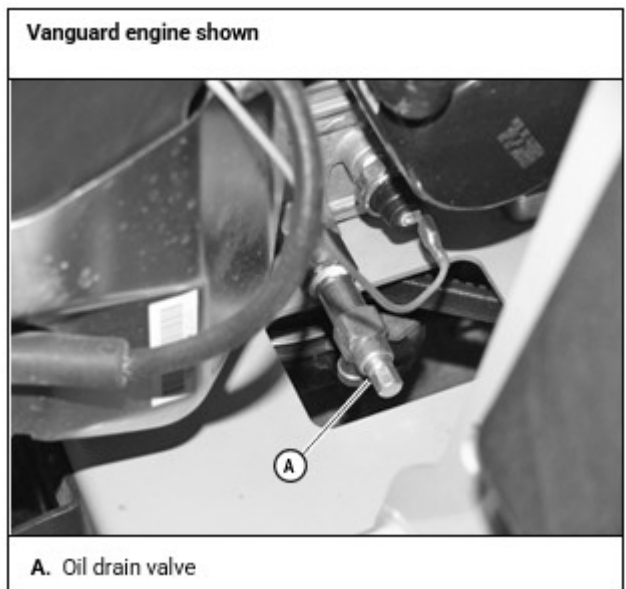
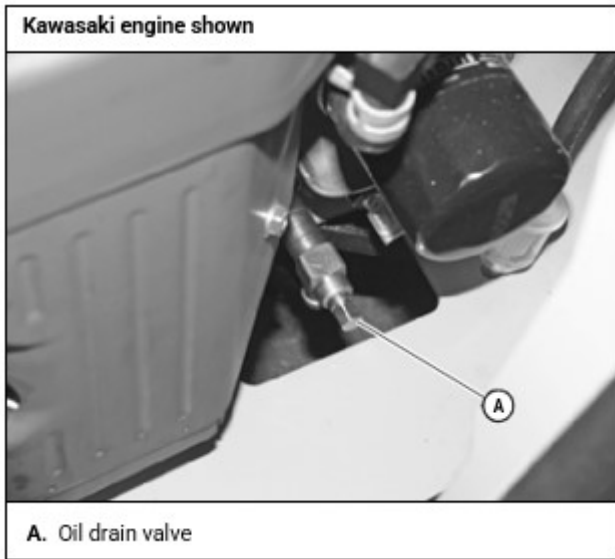

Figure 43
Figure 44
1. Locate the oil drain valve on the engine. [Figure 43] & [Figure 44]